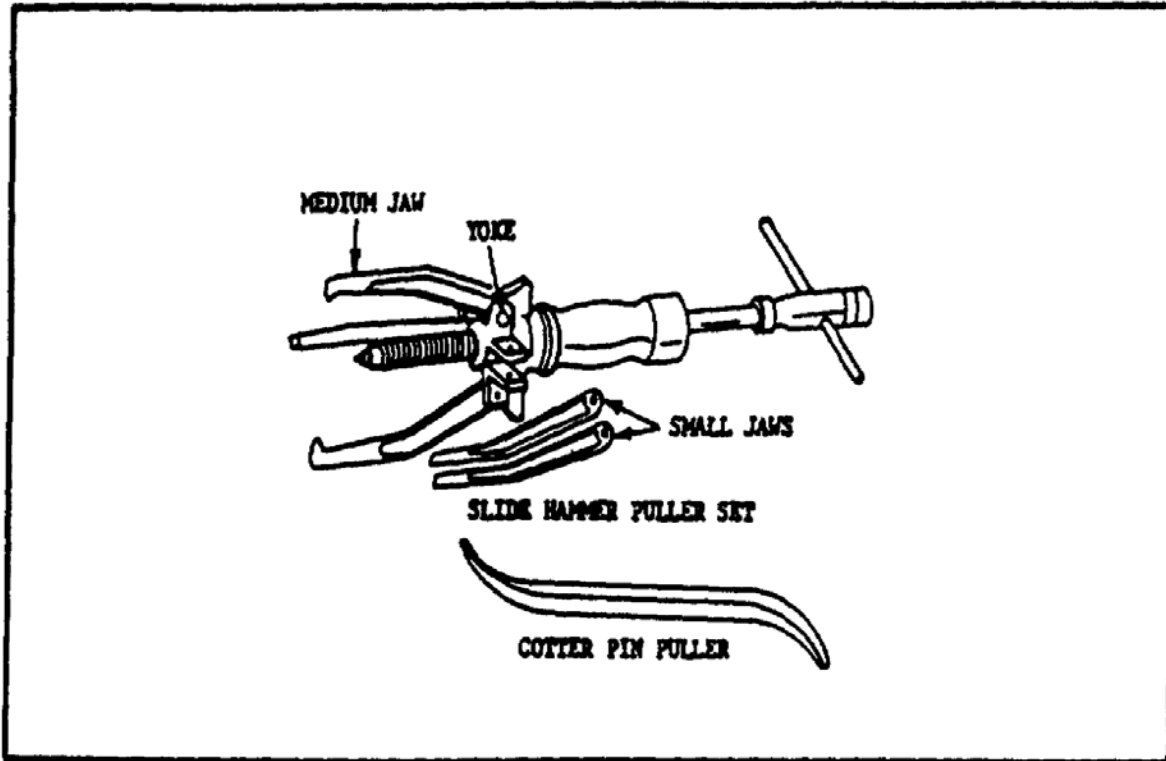

FIGURE 70. SLIDE HAMMER PULLER SET AND COTTER PIN PULLER.
(j) *Slide Hammer Puller*. The slide hammer puller set (figure 70) is a universal-type puller equipped with a two- and three-way yoke and three medium jaws for outside pulls, and two small jaws for inside pulling. The small jaws can be inserted through a 1/2 inch opening. The capacity of the medium jaws is 6 1/4 inches. The slide hammer puller is also equipped with a locking feature which holds the jaws open or locks them on the work.
(k) *Cotter Pin Puller.* A cotter pin puller (figure 70) is used to install or to remove cotter pins. It is an S-shaped tool, 7 inches long, one end used to insert through the cotter pins for extracting, the other end used for spreading the cotter pin. The shank is beveled square for easy handling and firm grip.
(2) *Slide Hammer Puller.* When using a slide hammer puller (figure 70), lock the jaws with the locking feature and slide the hammer handle up the shaft in the direction of the